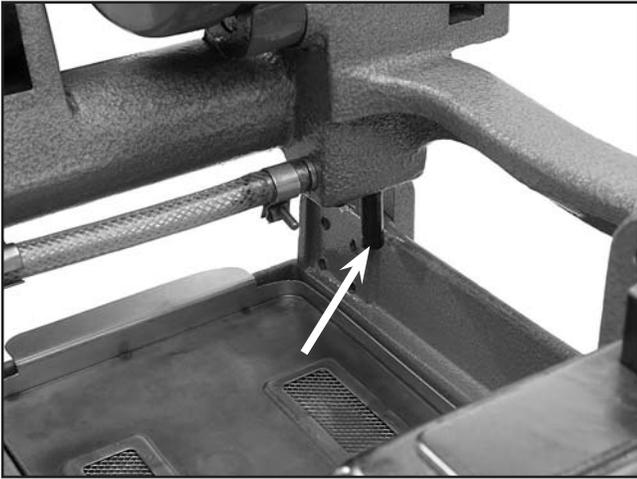

Figure 23. Fluid flow location with threading tool up.
1. Move the threading tool up and start the motor. Fluid should flow freely in the location shown in **Figure 23**.